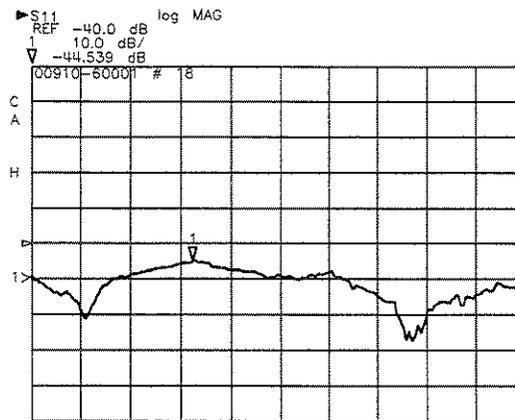

Figure 5-2. Typical Termination Return Loss
9. After one complete measurement sweep, the displayed trace should look similar to that shown in Figure 5-2